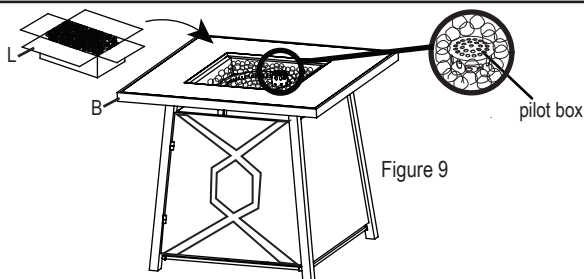

Figure 9
9. Open the box of lava rocks, put the lava rocks (L) into the fire bowl of the fire table (B), (see Figure 9). A gas fire pit requires 6.6 lbs lava rocks.